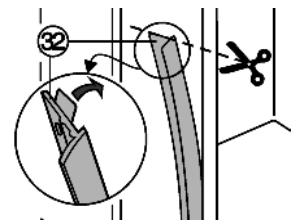

Fig. 25
- ▶ Strip the protective film off the cover trim Fig. 25 (32).
- ▶ Adhesively affix the cover trim Fig. 25 (32) on the handle side so as to be flush with the front of the side wall of the appliance.